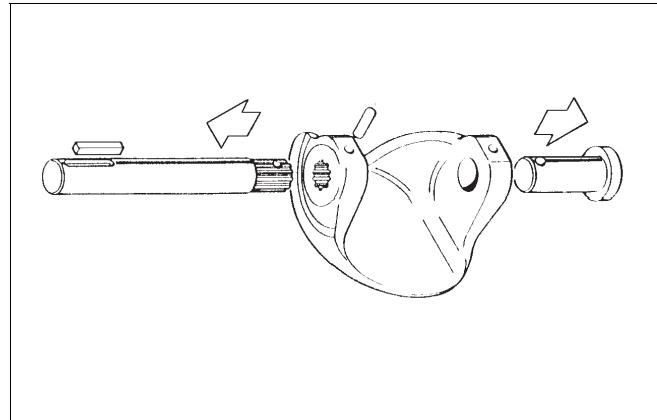

Fig. 24 Removing the shafts
- Detach the retainer plates (42).
- Detach the gland packings (20).
- Remove the shafts (11 and 12), Fig. 24.
- Adjust the segment open and closed positions (limits to piston movement) by means of the actuator stop screws, see Fig. 24. The correct opening angle is 90°, for the R2_S valve 70°. The accurate position can be seen in the flow port. Check that the yellow arrow indicates the position of the segment.